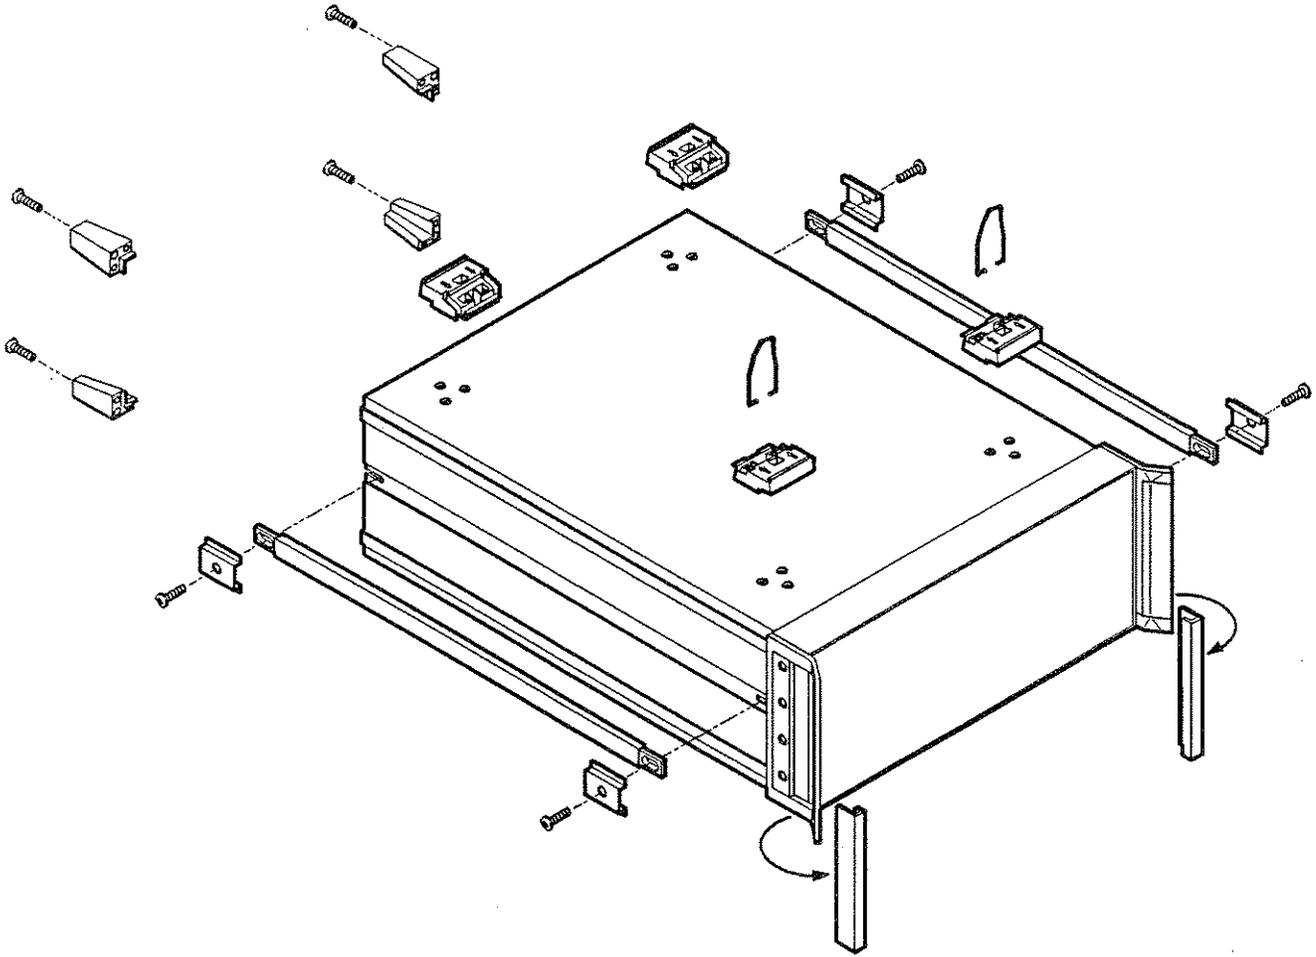

Figure 3-6. Removing the Side Straps and Feet
1. Refer to Figure 3-6. Remove handle trim strips.